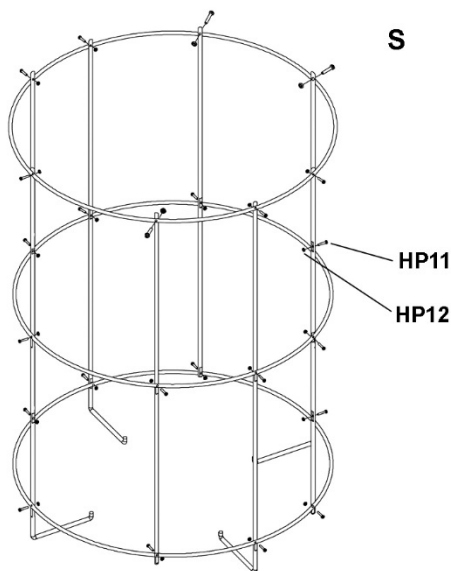

Figure 13
19. Screw the short and long frame supports into the hoops in alternating manner, as shown in Figure 13. Secure with 24 pan head screws and hex nuts (HP11,HP12). (Note: The bends on long supports point inward as shown.)